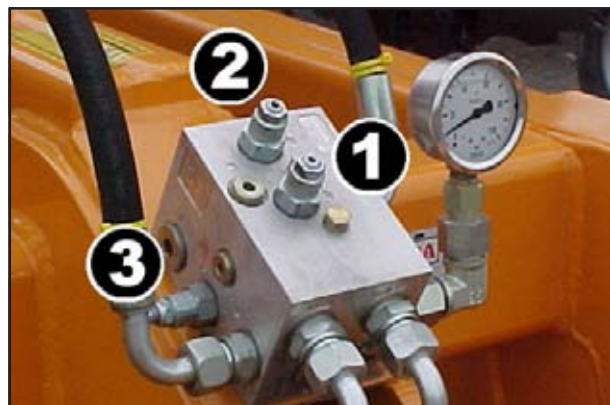

Fig. 5.03: Manifold Block
2. If the system needs adjusting:- Partially fold the wings & hold them in this position. To adjust the pressure utilise valve 3 (shown in Fig. 5.03). Unscrew the adjusting screw until no resistance can be felt (almost fully unscrewed position). Unfold the wings fully as before, checking the gauge reading. Maintain hydraulic pressure unfolding wings & adjust the screw whilst pressurising.